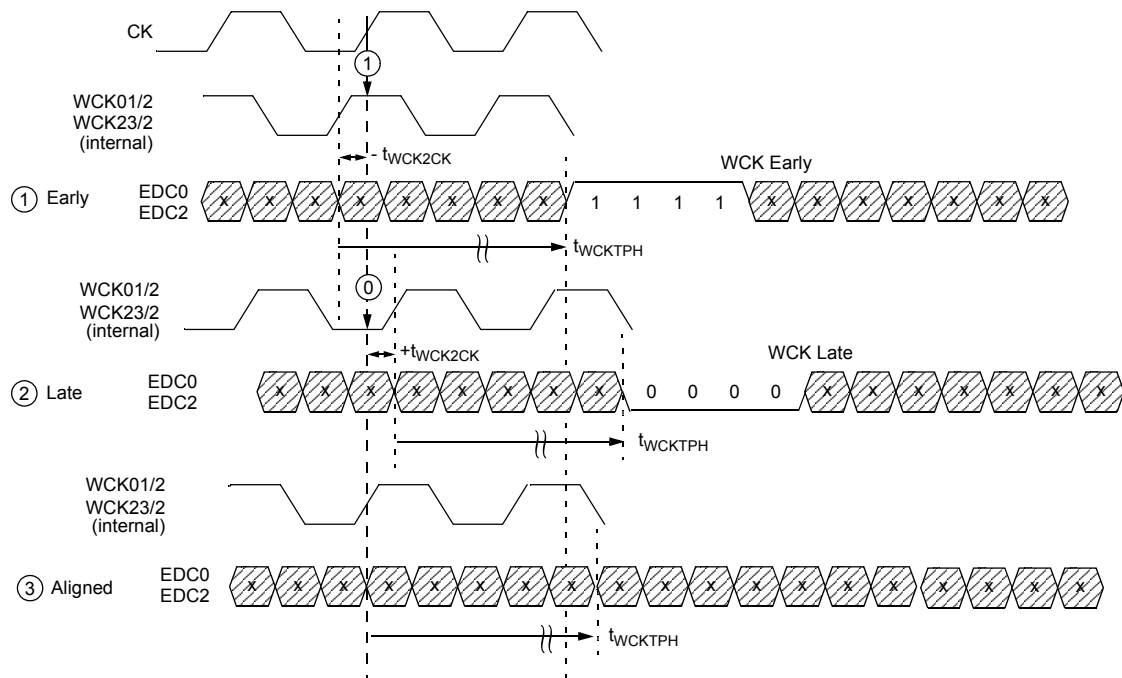

Figure 14. EDC pin Behavior for WCK2CK Training (assumes '1111' as EDC Hold Pattern)
Figure 14 illustrates how the WCK phase information is derived. The phase detectors (PD) sample the internally divided-by-2 WCK clocks. Only one sample point is shown in the figure for clarity. In reality, when WCK2CK training mode is enabled, a sample will occur every t_{CK} and will be translated to the EDC pins accordingly. If the divided-by-2 WCK clock arrives early, then the EDC pin outputs the EDC hold pattern during the time interval specified in Figure 14. If the divided-by-2 WCK clock arrives late, then the EDC pin outputs the inverted EDC hold pattern during the time interval specified in Figure 14. This is shown in Table .